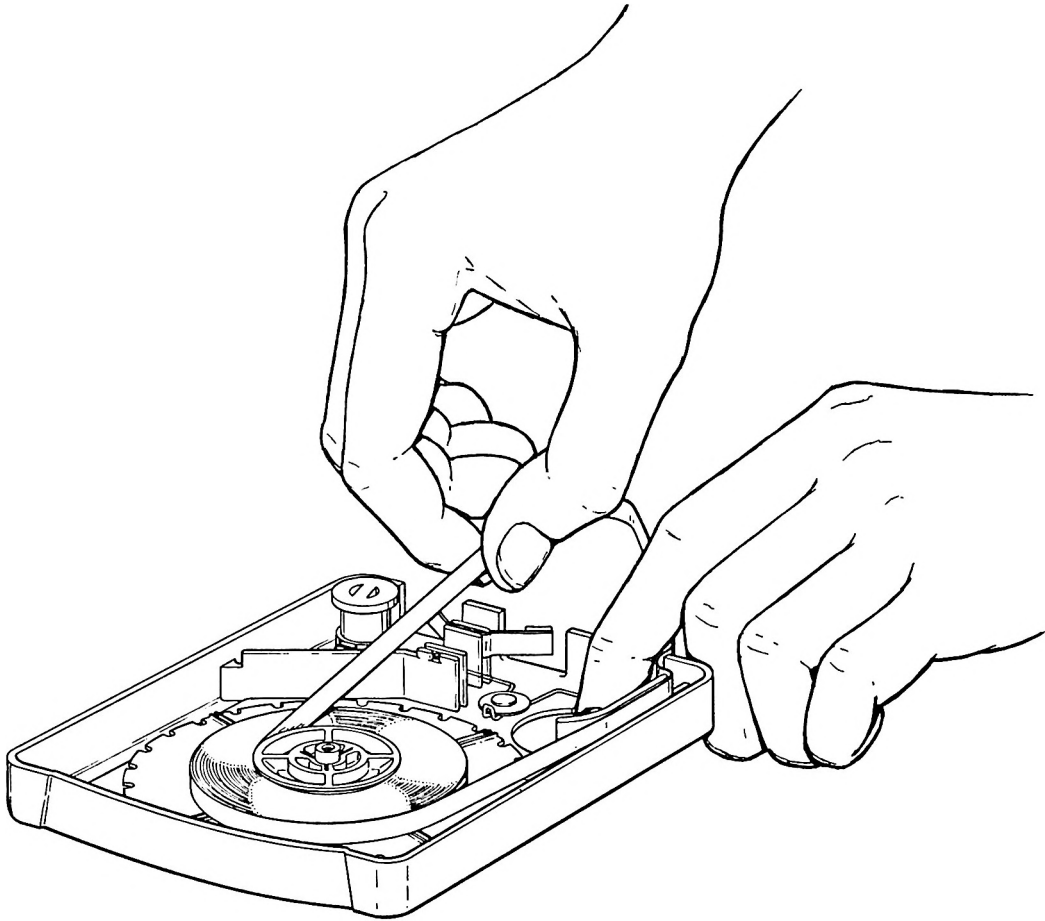

Figure 8. Adjusting Tape in Cartridge
b. With the left hand, release the reel locking spring over the opening in the bottom left of the cartridge as in figure 8. This will allow the reel to turn. Then, with the right hand, pull the tape from the inside of the reel until the slack in the free tape loop has been taken up.